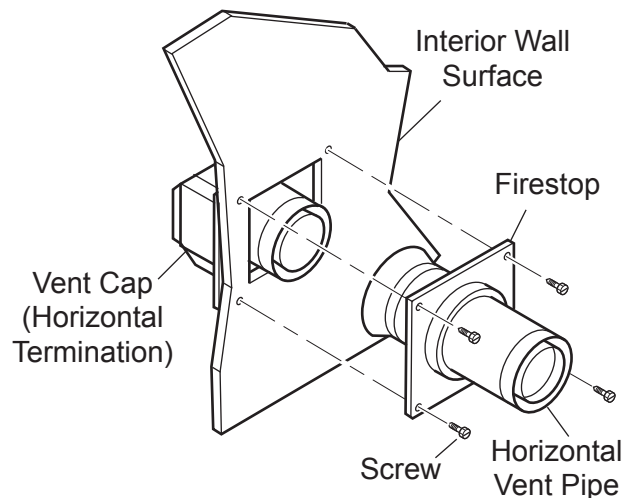

Figure 20 - Installing Firestop on Horizontal Vent Pipe
- Slide the firestop over the vent pipe before connecting the horizontal run to the vent cap. See Figure 20.
- Slide the firestop against the interior wall surface and attach with screws. See Figure 20.